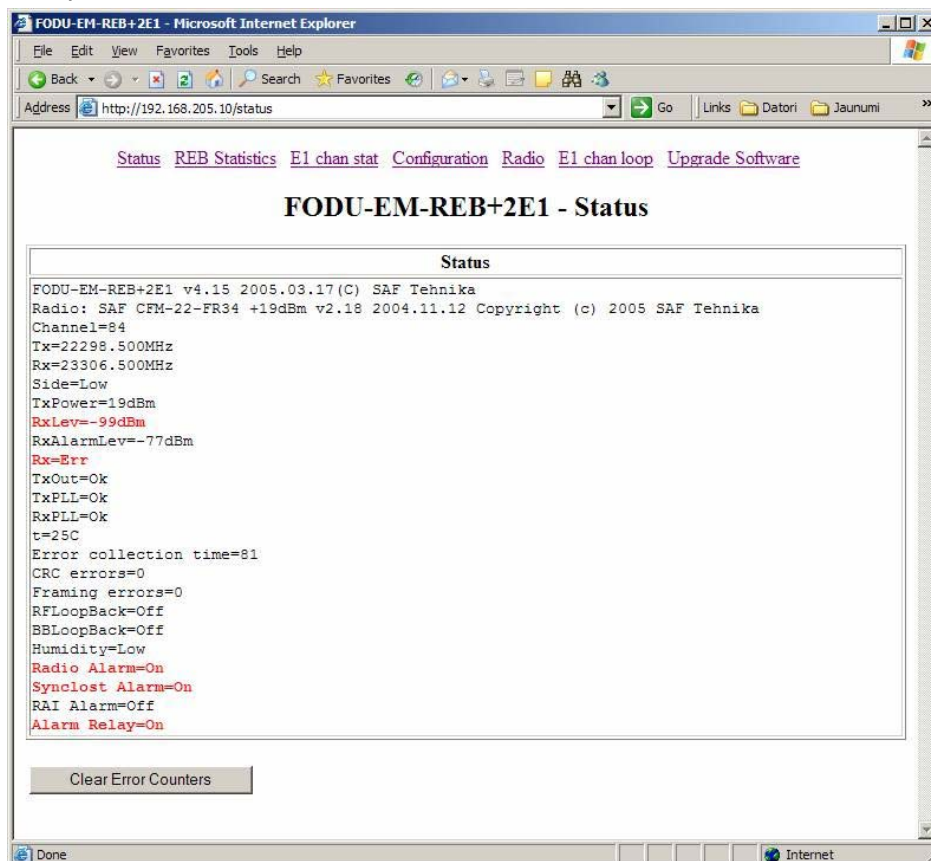

Figure 4
- Monitor the FODU radio parameters, inspect current configuration, alarm status, etc. (see Figure 4)